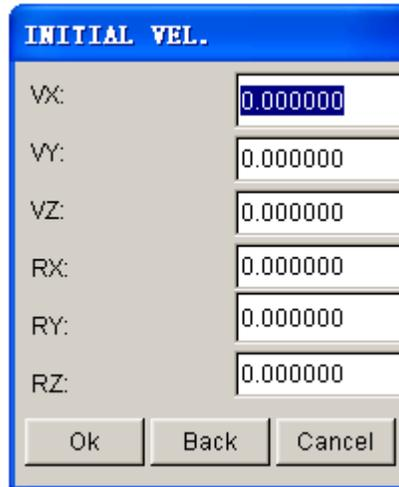

Figure 5.6.11 Initial Velocity dialog box
- Enter the initial velocity in the INITIAL VELOCITY dialog box as illustrated in Figure 5.6.11.